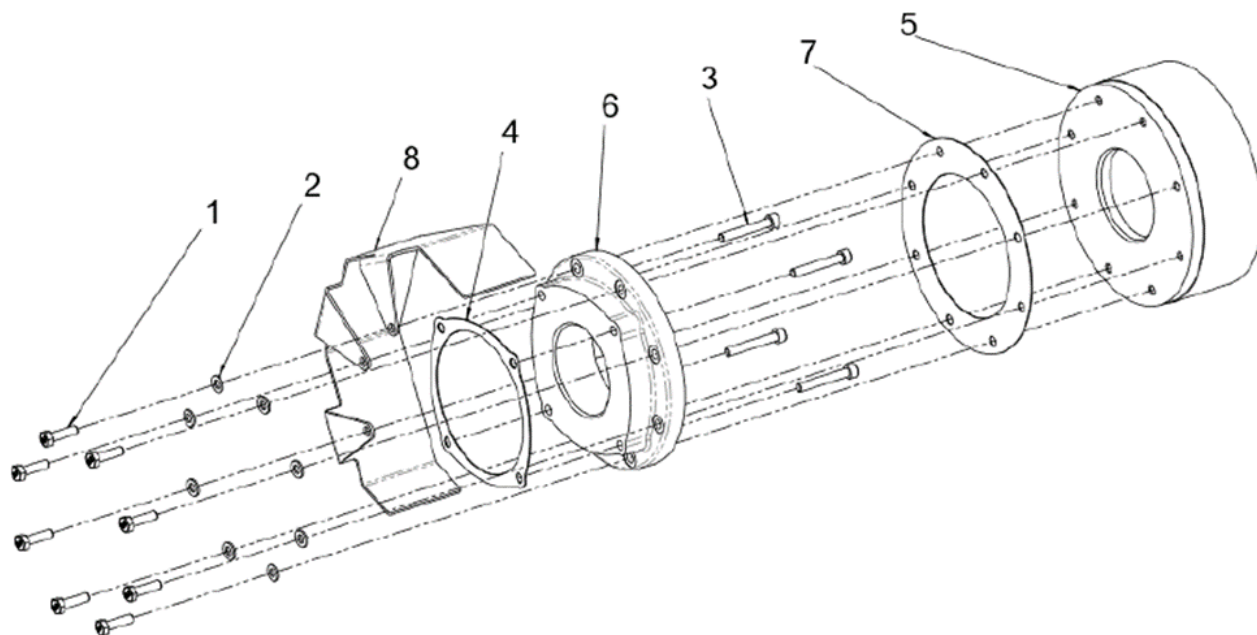
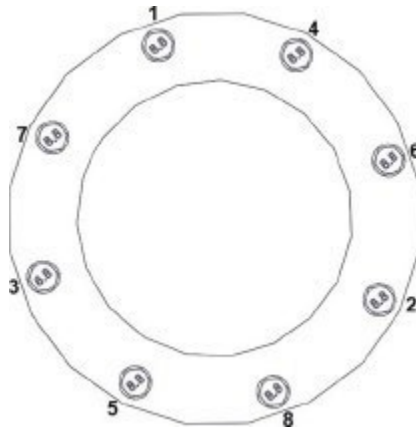

Figure 42. Explosion Relief Valve Assembly
Figure 43. Explosion Relief Valve Torquing Sequence
3. Remove the relief valve (Figure 42, Item 5).
4. Remove the relief valve gasket (Figure 42, Item 7).
5. Remove the four bolts (Figure 42, Item 3) from the relief valve adapter (Figure 42, Item 6).
6. Remove the throttle adapter gasket (Figure 42, Item 4).
2. Place relief valve adapter gasket (Figure 42, Item 4) onto the relief valve adapter (Figure 42, Item 6).
4. Apply PSI approved Loctite to all four relief valve adapter bolts (Figure 42, Item 3).
6. Clean any debris from the surface of the relief valve (Figure 42, Item 5).
7. Place all eight washers (Figure 42, Item 2) onto the eight relief valve bolts (Figure 42, Item 1).
8. Carefully place the relief valve gasket (Figure 42, Item 7) and relief valve (Figure 42, Item 5) onto the relief valve adapter (Figure 42, Item 6).
9. Place the explosion relief shield (Figure 42, Item 9) on the back of the relief valve (Figure 42, Item 5) and ensure the shield is pointed out and away from the engine.
10. Insert and torque down the eight washers and bolts (Figure 42, Item 1 & 2) in the below sequence to 27 ft/lbs. (Refer to Figure 43.).